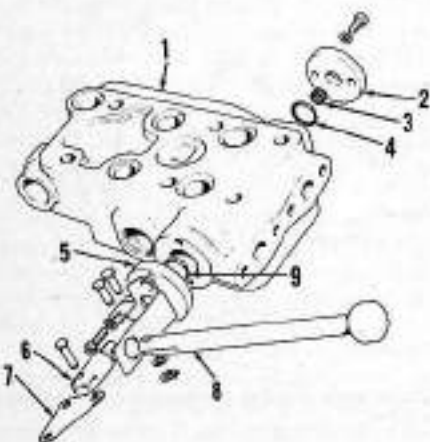

Fig. 213—Exploded view of combining valve. Note valve spool is not shown.
380. Remove pins and valve control linkage. Remove control spool spacer (5—Fig. 213) and pull control spool from valve body. Remove end cap (2) and breather (3). Remove "O" rings (4 and 9) from spool.